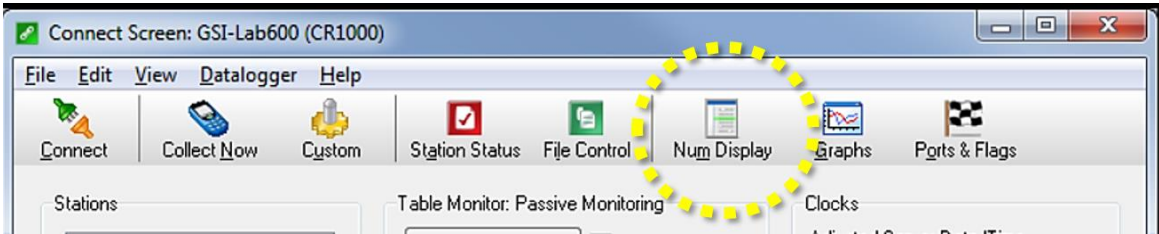

Figure 43. Click "Num Display" Icon
- f. Click **“Num Display”** (see Figure 43) to open the Data View.